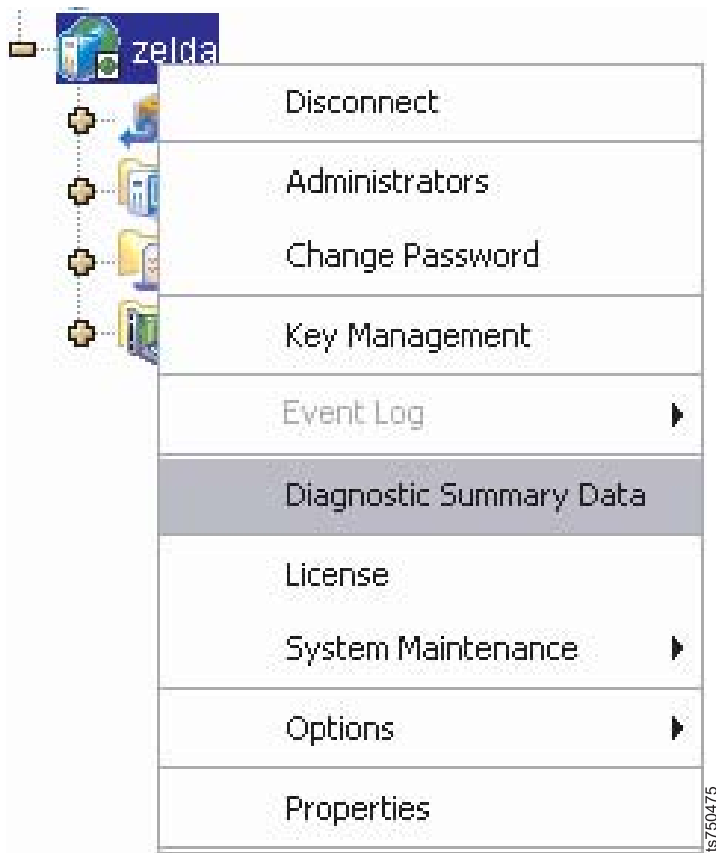

Figure 5. Diagnostic Summary Data selection
1. In the VE console, right-click the server icon and select **Diagnostic Summary Data**. See Figure 5.